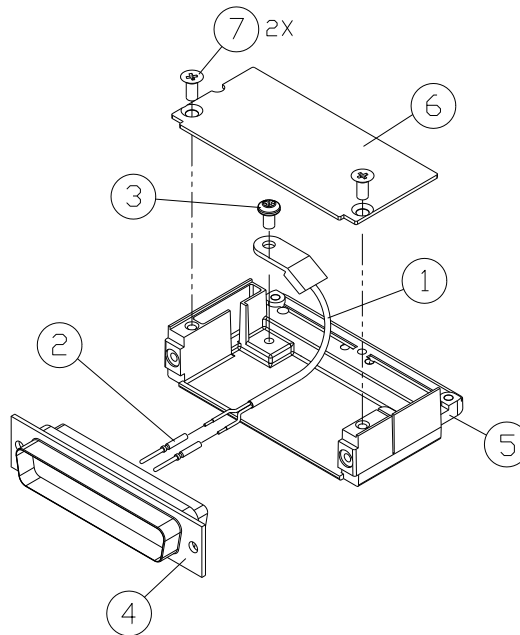

Figure 6-3. GEA 71 Backshell Thermocouple
1. Crimp pins (item 2) onto each of the thermocouples wires (item 1). Ensure that pre-stripped wire length is 1/8" prior to crimping.
2. Insert newly crimped pins and wires into the appropriate connector housing location (item 6). Place thermocouple body (item 1) onto the backshell boss (item 5). Place the thermocouple as shown in Figure 6-3 (the wires exit towards the bottom of the backshell).
3. Fasten thermocouple tightly to backshell using the provided screw (item 6).
4. Fasten cover (item 6) to backshell using the provided screw (item 7).